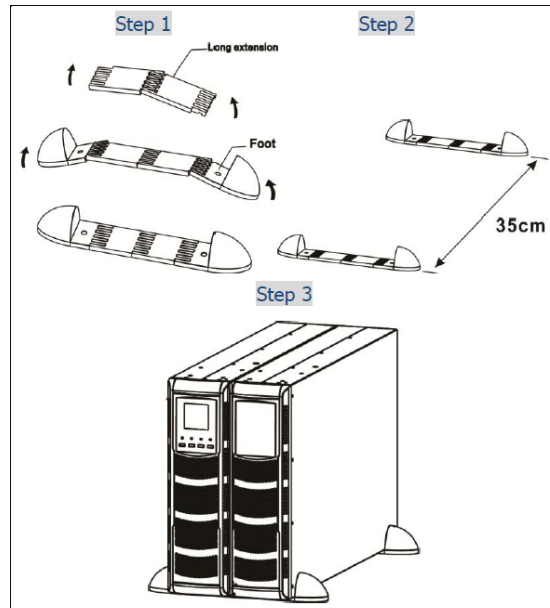

Figure 2
B. Install UPS module and one battery bank as shown in Figure 2 below.